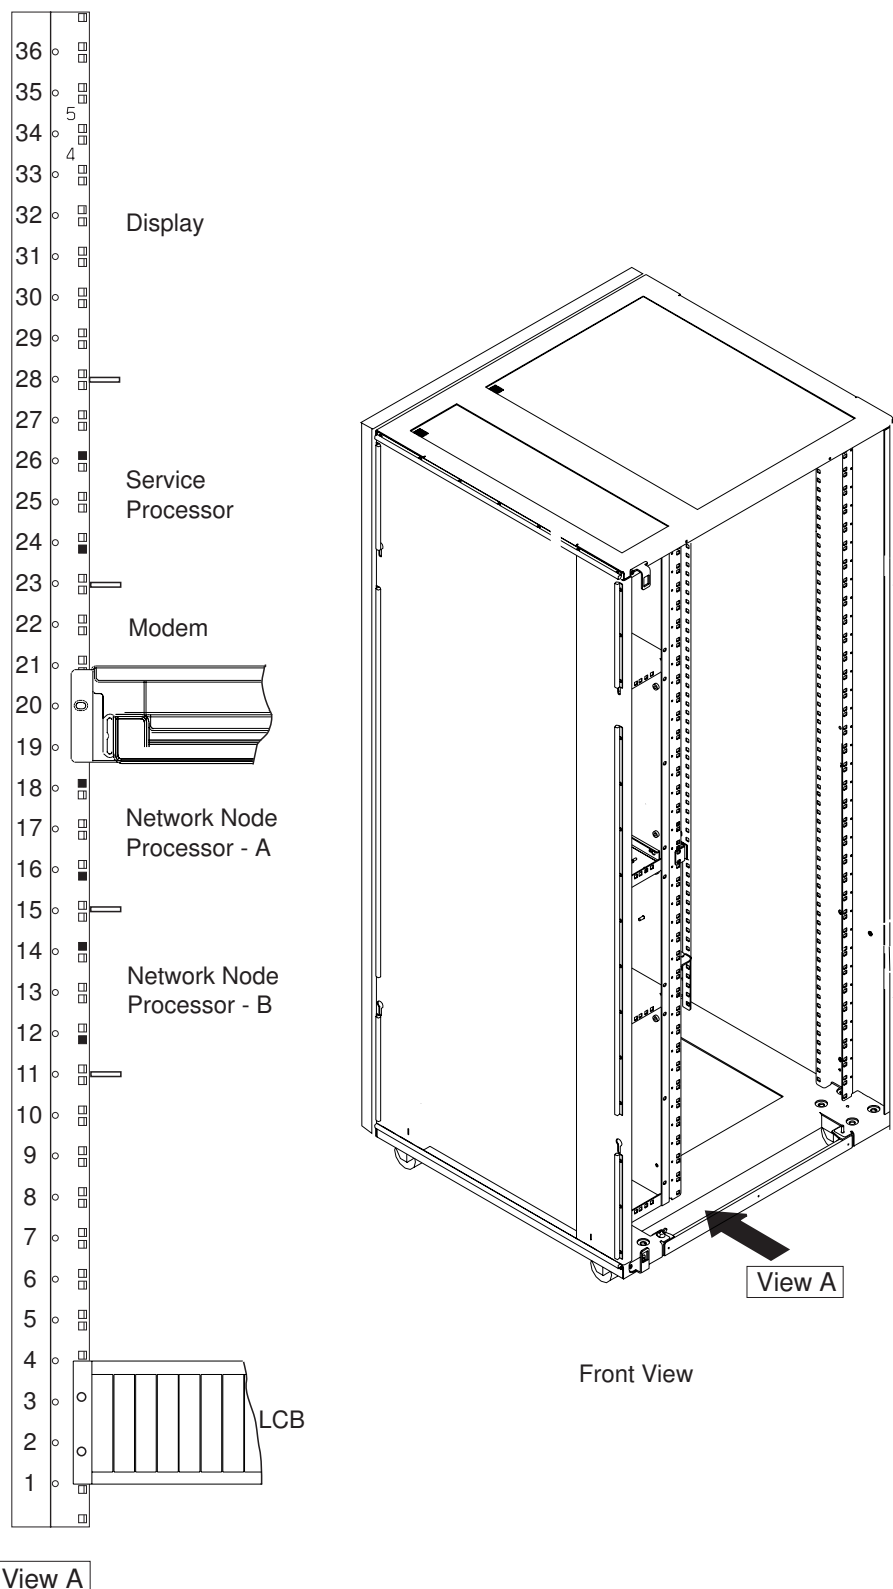
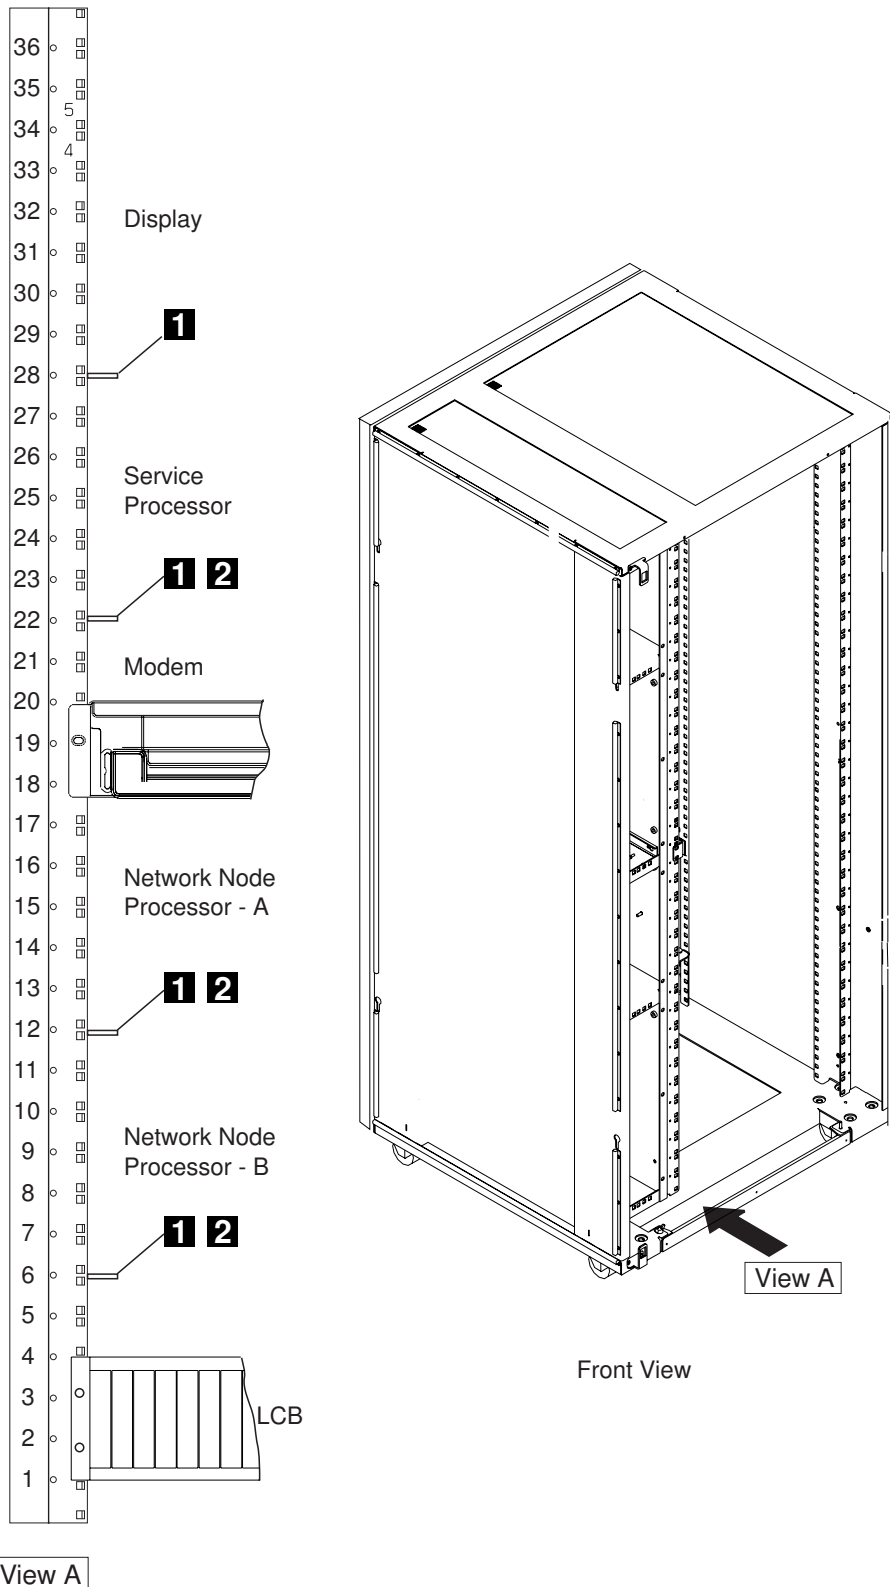

Figure 5. Installing Brackets for Processor Type 7585
Figure 6. Installing Brackets for Processor Type 3172
- The following figures Figure 1 on page 4 to Figure 6 on page 7 show where to install the Service Processor according to his type.
- \_\_\_ 3. Locate the positions to install the brackets for the display, the service processor and the service drawer. Refer to Figure 5 on page 6 to Figure 6 on page 7